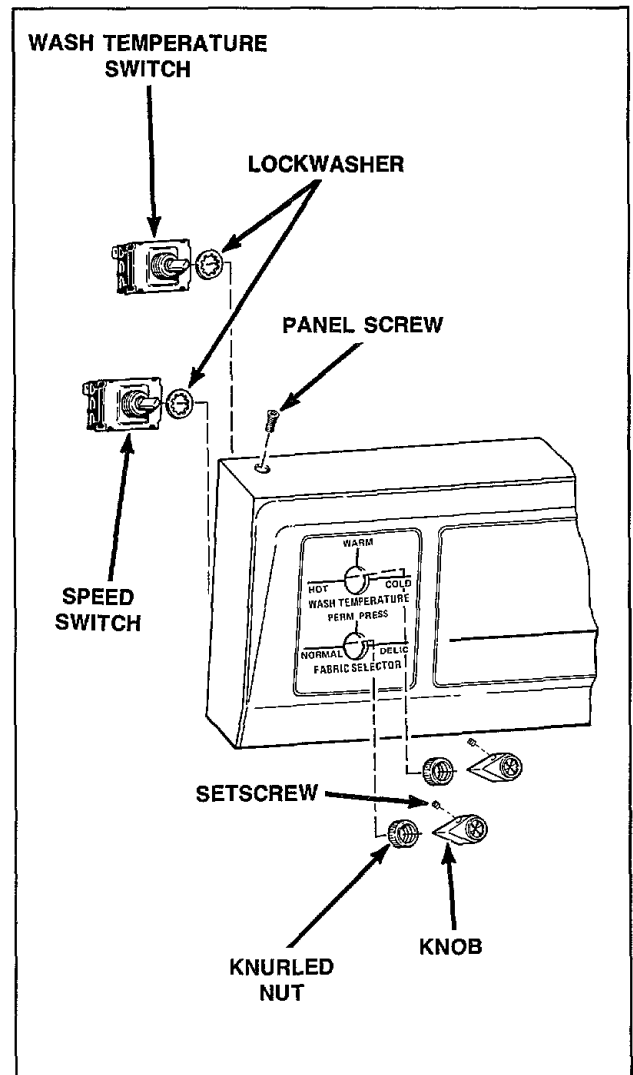

Figure 2
2. SPEED OR WASH TEMPERATURE SWITCH (Refer to Figure 2)